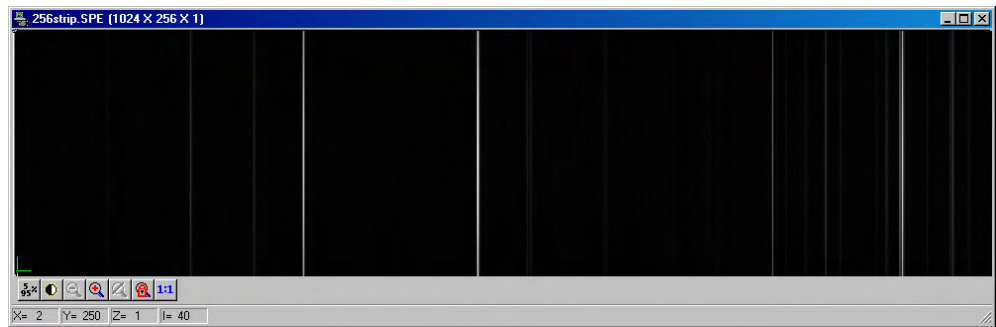

Figure 43. Image Display of 256 Data Strips
- ⇒ If there are eleven or more strips of data, they will be displayed as a normal image, such as that shown in Figure 43 (page 63).
⇒ If there are eleven or more strips of data, they will be displayed as a normal image, such as that shown in Figure 43.